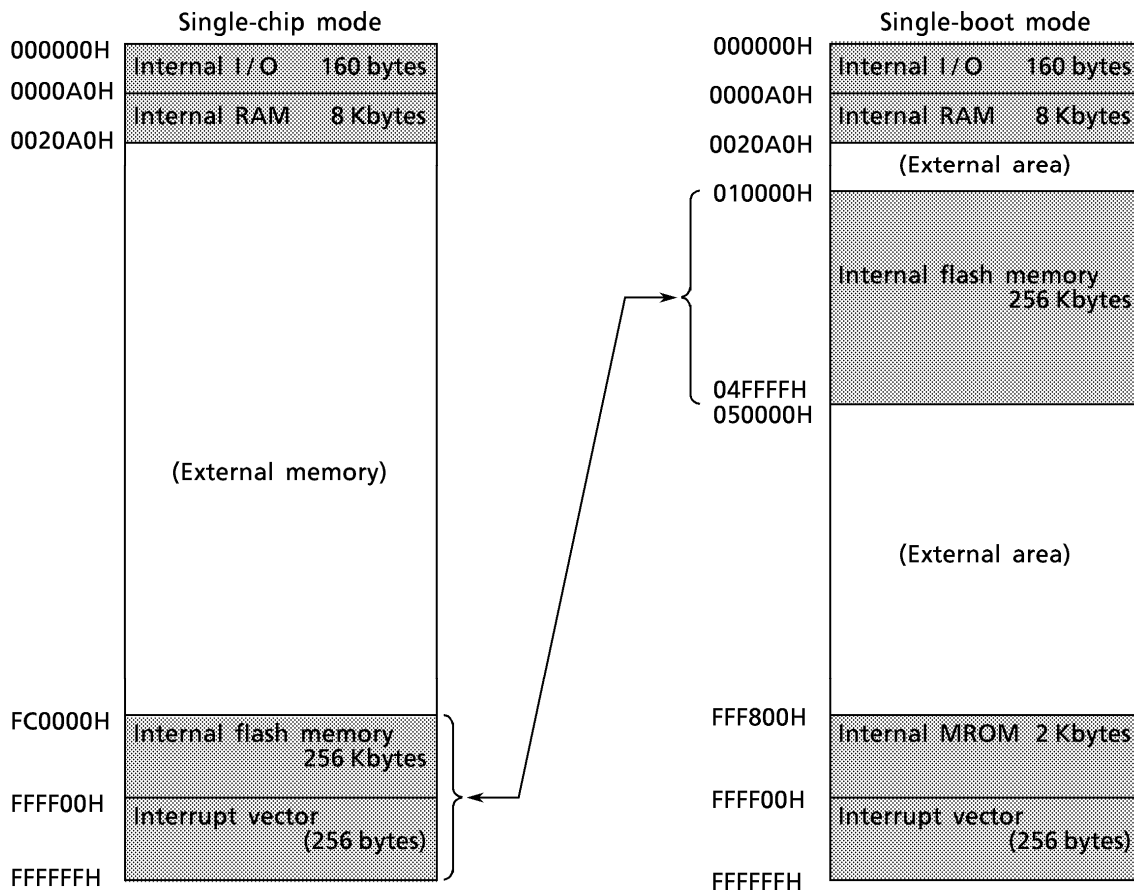

Figure 3.4 (2) Comparison of Memory Maps
(3) Memory map
Figure 3.4 (2) compares memory maps in single-chip and single-boot modes. When in single boot mode, the internal flash memory is mapped into addresses 10000H through 4FFFFH, as shown here.